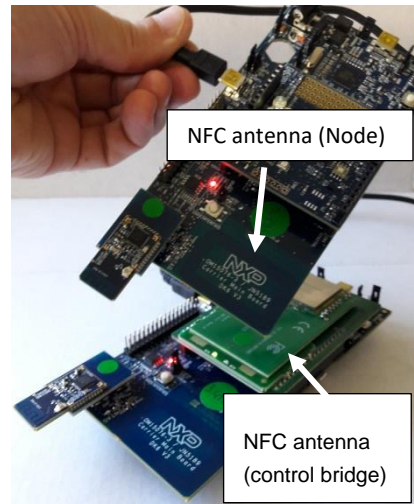

Figure 3: NFC Tap to Commission Node
- 2) Tap the NFC antenna of the light node on the NFC antenna of the control bridge, as shown in the Figure 3.